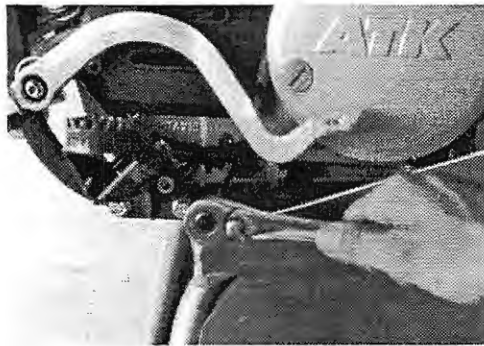

Figure 4.2
*Note: By using a triangle sidestand (part number 020 031) it is possible to drain the oil from the engine through the hole in the skidplate without removing the skidplate. The triangle sidestand allows the motorcycle to be leaned to the right, facilitating easier oil draining from the engine. (Figure 4.2)*